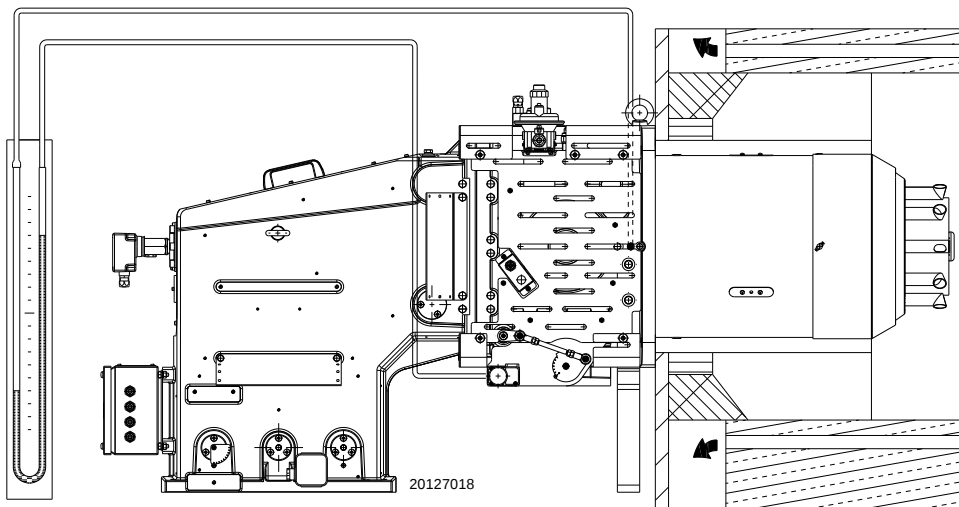

Fig. 23
- Fit a U-type pressure gauge or a differential pressure gauge (Fig. 23), with socket (+) on the gas pressure of the pipe coupling and (-) in the combustion chamber. The manometer
The arrival of the gas at the pipe coupling is shown on the U-shaped pressure gauge (Fig. 23) or else with the help of a digital pressure gauge on the pressure test point under the pipe coupling.